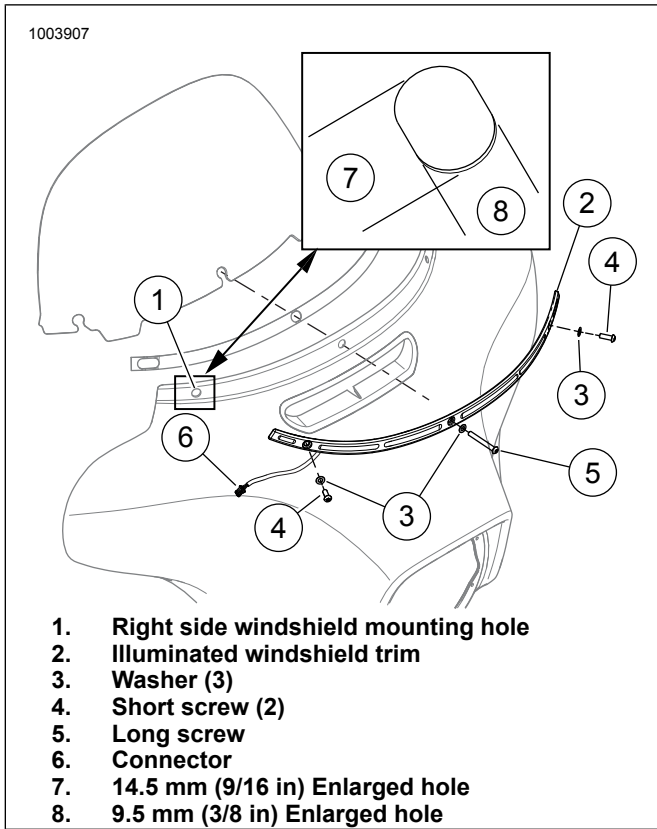
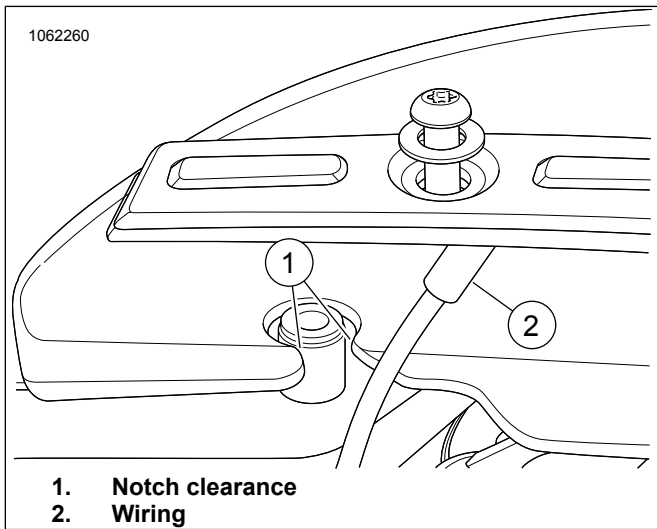
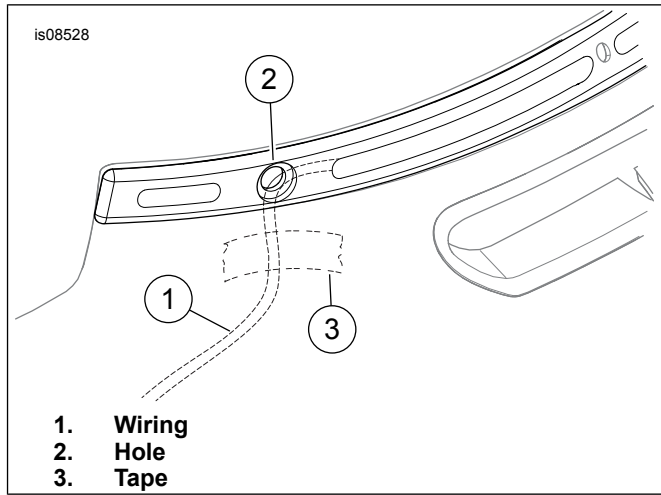

Figure 3. Install Illuminated Windshield Trim
Figure 4. Notch in Windshield
Figure 5. Route Illuminated Windshield Trim Wiring
See Figure 3. Enlarge the right mounting hole (7, 8) in the outer fairing. This allows the windshield trim wiring to pass by the threaded mounting insert when completely assembled. See Figure 4
3. See Figure 5. Route connector and wiring (1) through the enlarged hole (2). Hold trim in place.
4. See Figure 5. Secure the wiring (1) to the inside of the outer fairing with tape (3). This allows the wiring to pass by the threaded mounting insert on the inner fairing without interference when the outer fairing is installed. See Figure 4.
- a. See Figure 3. Use washers (3) and screws (4 and 5) from kit to secure the illuminated windshield trim and windshield.